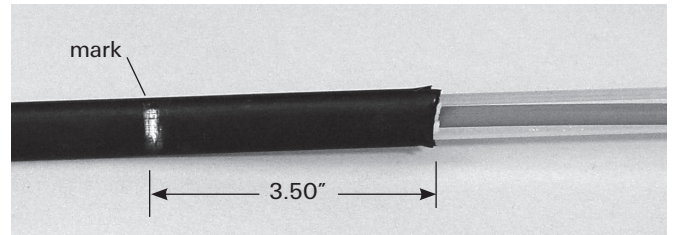

Figure 9
2. Mark the cable sheath 3.50" from the sheath ring cut. (Figure 9)